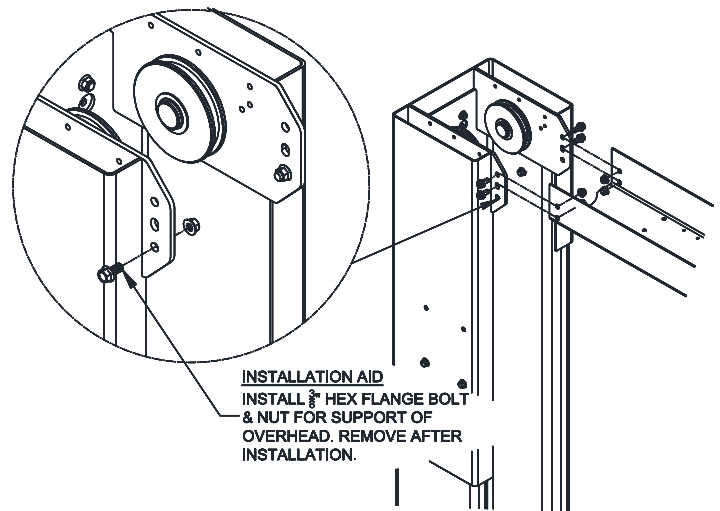

Fig. 8 – Overhead Assembly
- 27) Before raising overhead into position install 4 (2 per column) hex flange bolts and nuts in bottom hole of column extension (**see Fig. 8 Installation Aid**) for temporary support of overhead. Lift overhead assembly up into position and install with 8 each (4 per column) 3/8"-16 x 3/4" lg. hex flange bolts and hex flange nuts per side as shown in **Fig. 8**. For the max width position, the outer overhead holes will be used. For the (-6") width, use one set of outer overhead holes and one set of inner overhead holes. For the (-12") width, use the inner sets of overhead holes.